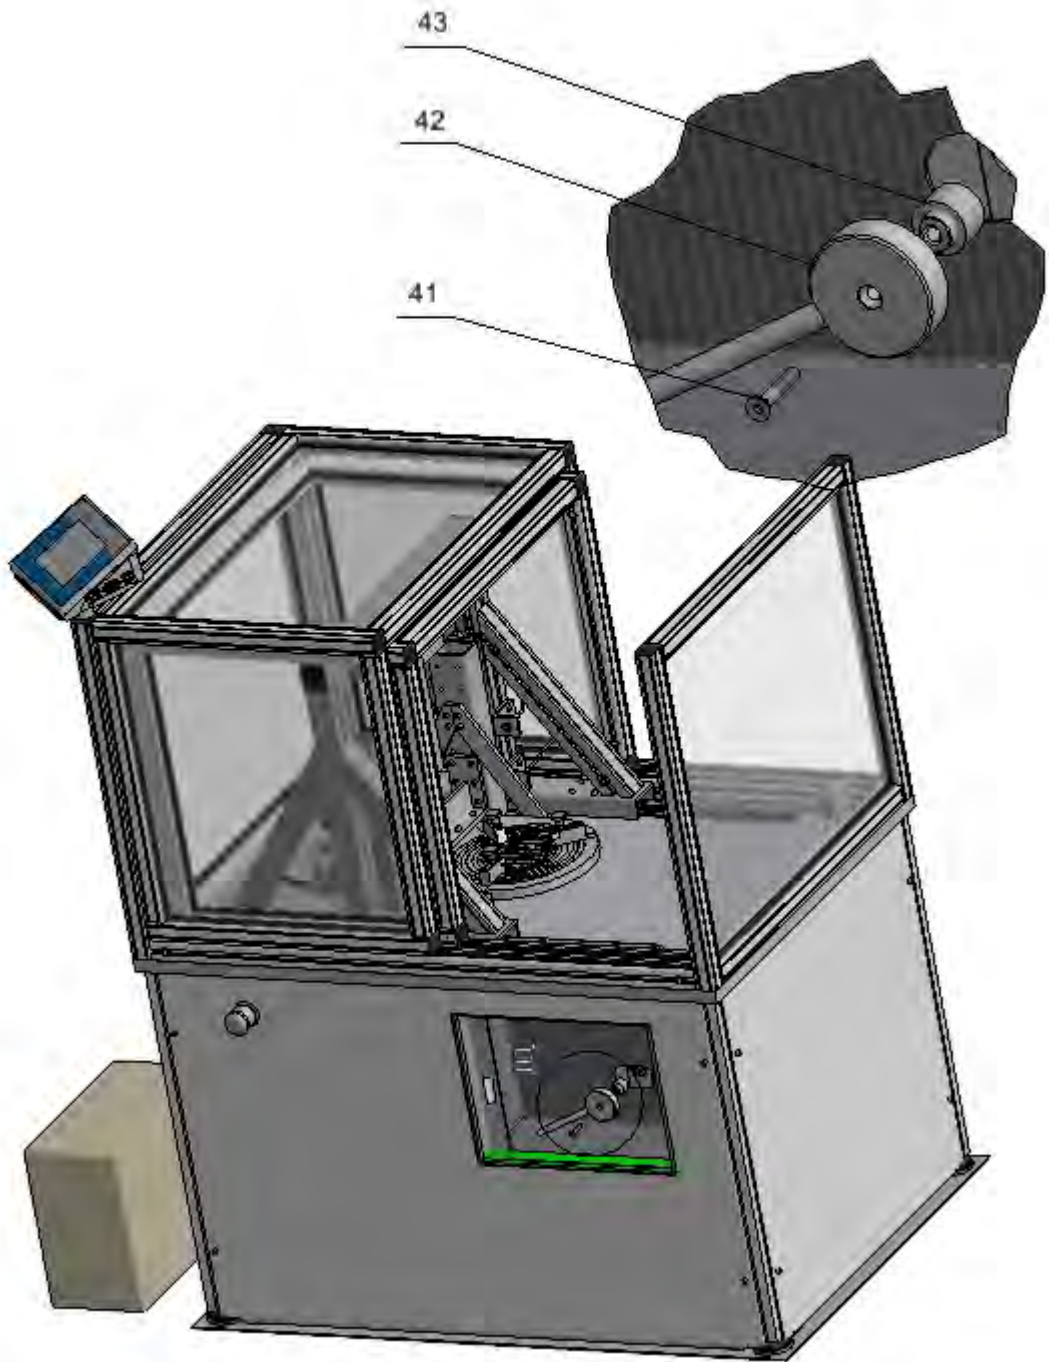

Fig.18
35. Using M5 screws (41) fix knob with lever (42) to the comparator. Place distancing sleeve (43) between the lever and the comparator. (Fig. 18)